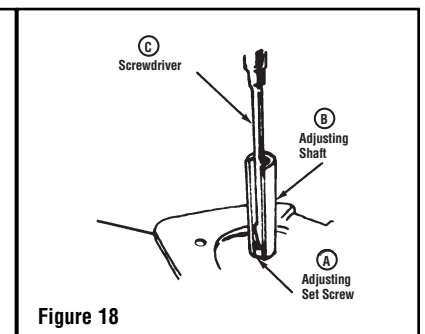

Figure 18
- B. While holding the adjusting shaft (B) tightly, turn small center adjusting screw (A) with small screwdriver (C) until thermostat clicks "off" (see Figure 18).